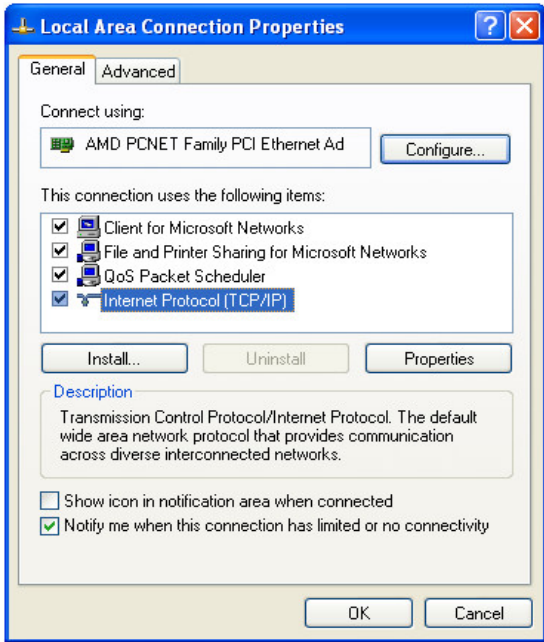

Figure B.1 – Connection properties window in Windows OS
2) Click the icon of the connection with the right button, and select "Properties" in the drop-down menu. The Properties window opens (see Fig. B.1).